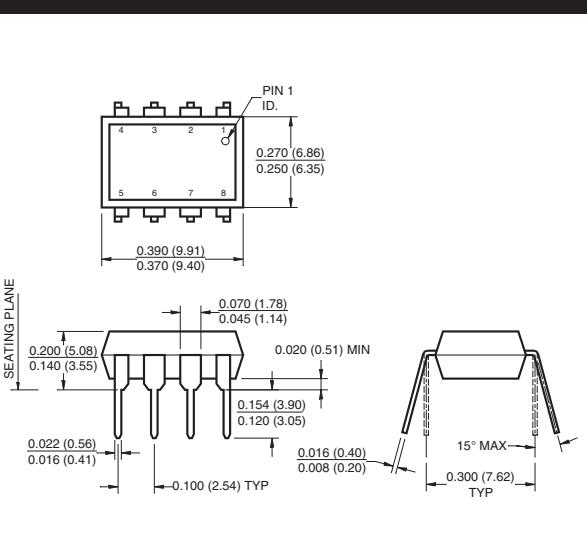

**Fig. 9. Switching Test Circuit**
6. TPHL propagation delay is measured from the 2.5 V level of the leading edge of a 5.0 V input pulse (1 μs rise time) to the 1.5 V level on the leading edge of the output pulse. TPLH propagation delay is measured on the trailing edges of the input and output pulse. (Refer to Fig. 9)